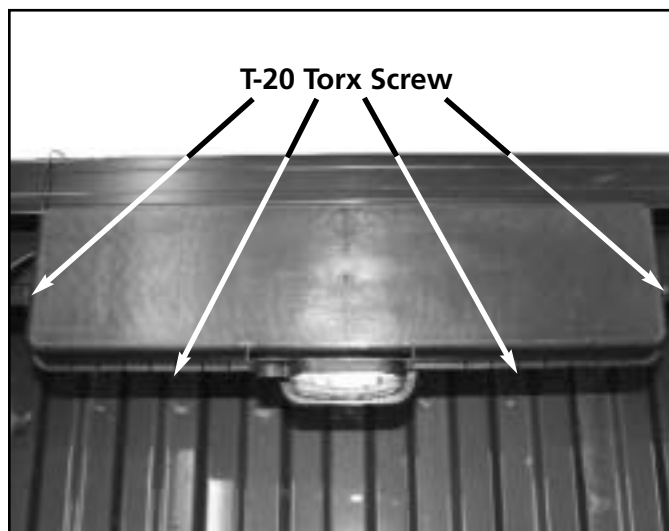

Figure S-41
3. Remove the four (4) T-20 Torx motor cover retainer bolts from the motor housing cover and position motor housing cover to the side. See figure S-41.
19. Install the motor cover and the four (4) T-20 Torx retaining screws and tighten. Refer back to figure S-41.